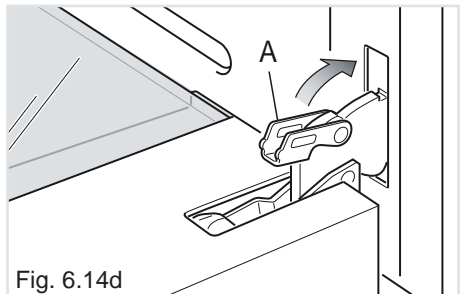

Fig. 6.14d
- Unlock the oven door by opening it completely and closing the lever “A” on the left and right hinges (fig. 6.14d).